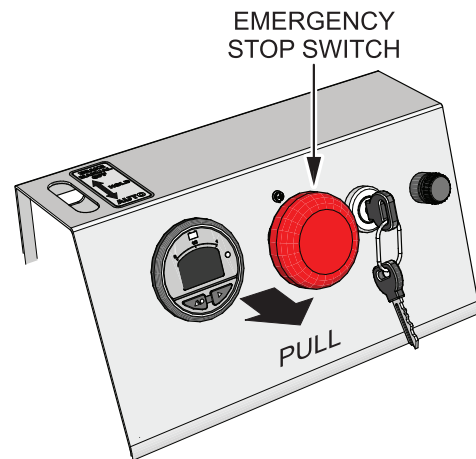

Figure 20. Emergency Stop Switch (Closed)
1. Located on the control panel of the Mini Dumper, is the **start/stop** button (Figure 20). Pull this button outward to start the electric motor.